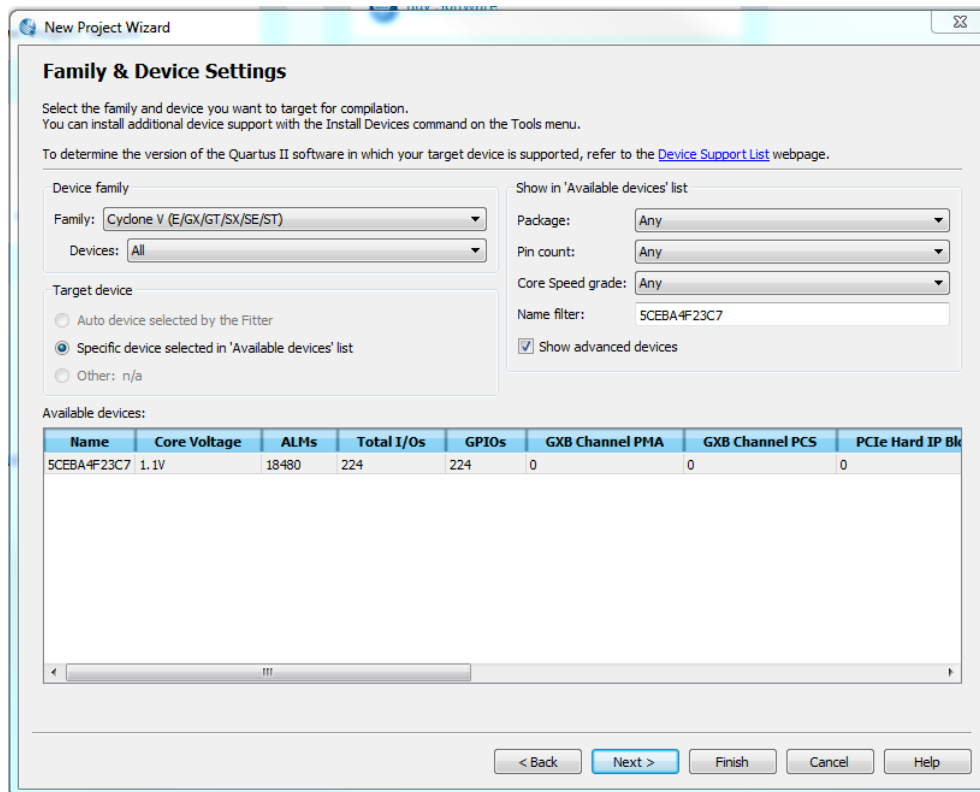
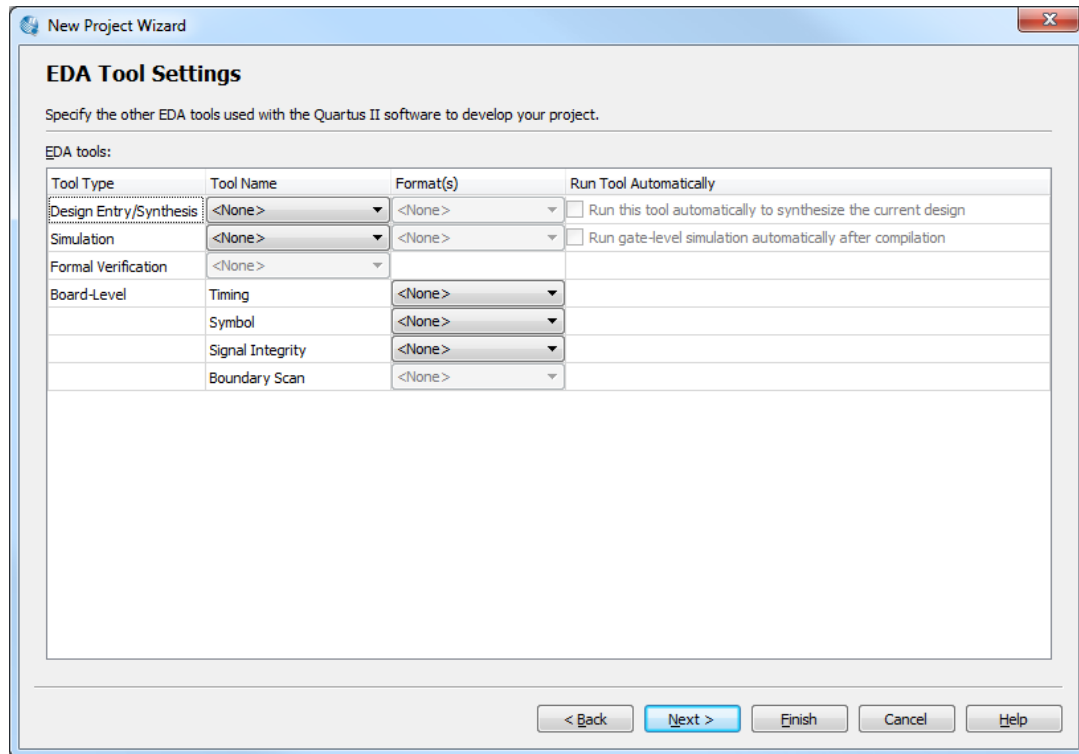

Figure 8. Choose the device family and a specific device.
Figure 9. Other EDA tools can be specified.
4. The wizard makes it easy to specify which existing files (if any) should be included in the project. Assuming that we do not have any existing files, click **Next**, which leads to the window in Figure 8.
5. We have to specify the type of device in which the designed circuit will be implemented. We can let Quartus II software select a specific device in the family, or we can choose the device explicitly. We will take the latter approach. Type in the device name 5CEBA4F23C7N in the Name Filter field of Figure 8. Press **Next**, which opens the window in Figure 9.